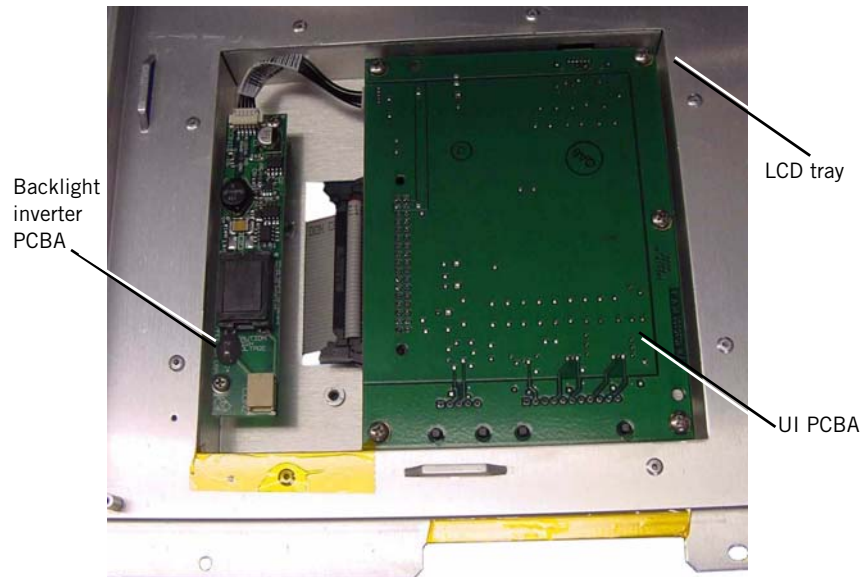

Figure 7-37: Removing the LCD Tray
**7.36 LCD Tray** Follow these steps to remove the LCD tray (Figure 7-37). Reverse to install.